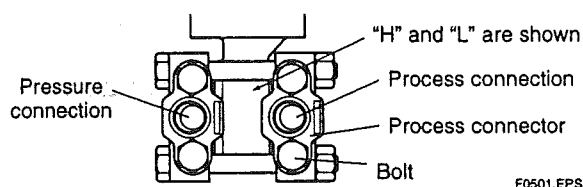

Figure 5.1.1a "H" and "L" Symbols on a Capsule Assembly
##### (1) Check the High and Low Pressure Connections on the Transmitter (Figure 5.1.1a)